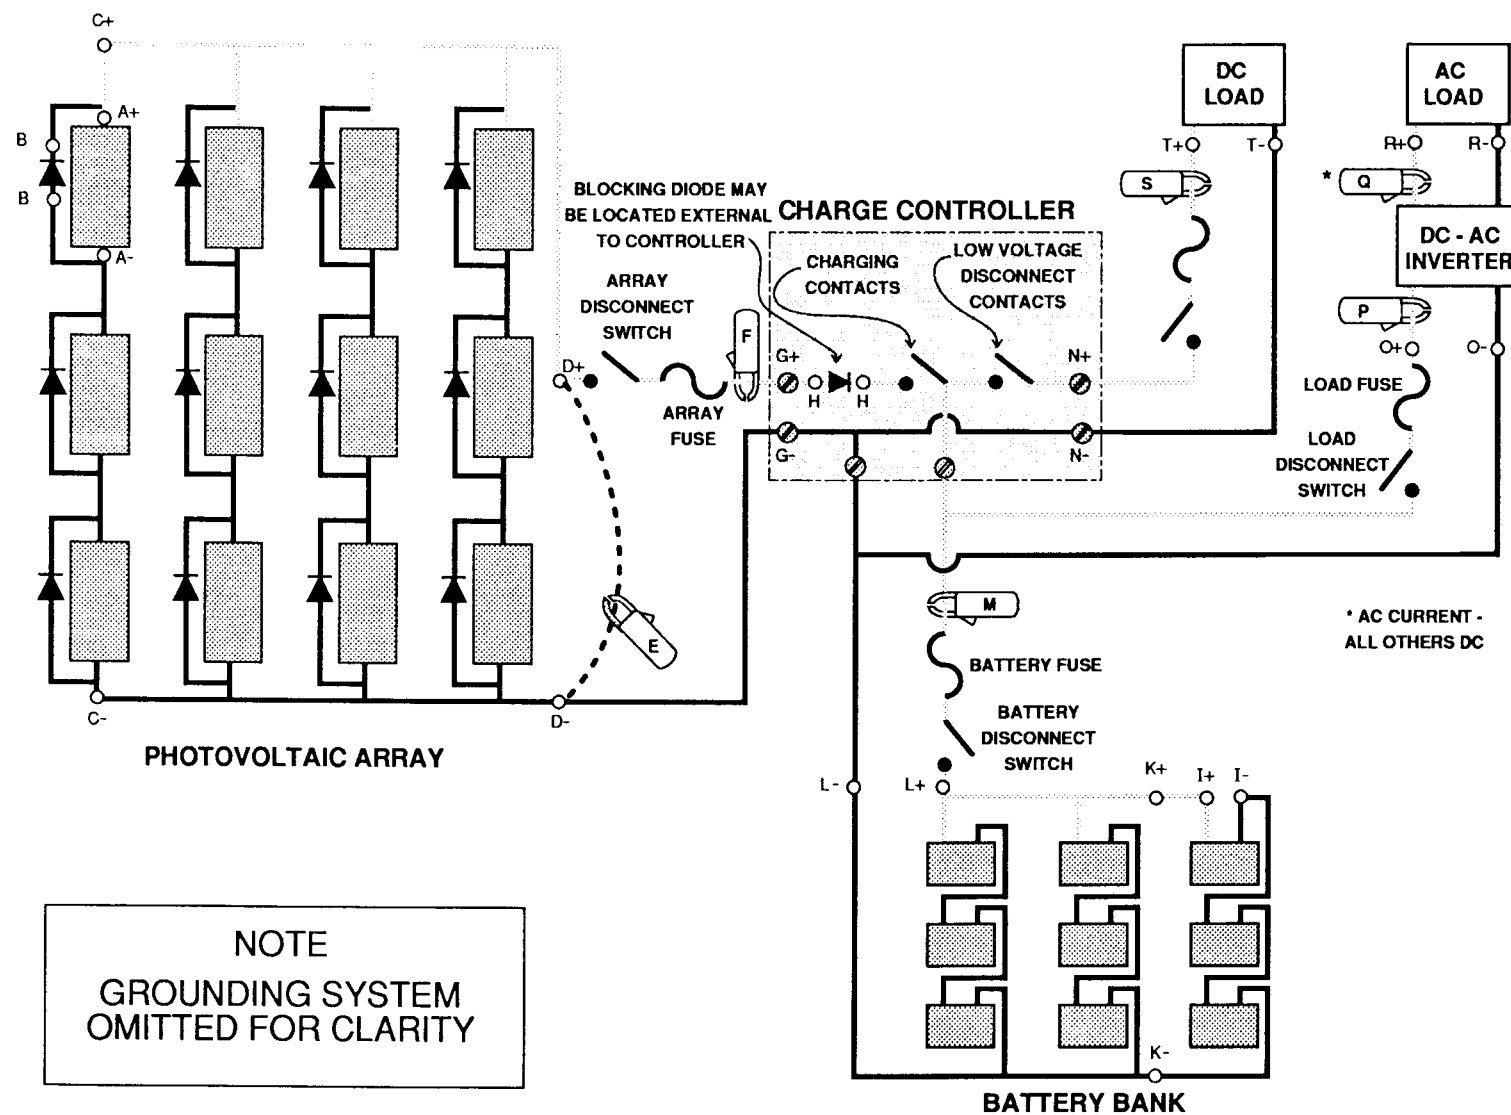

FIGURE 6-1
- 6.1.4 Portable Metering. All the disconnect switches should still be closed at this point. With portable electrical meters, refer to Figure 6-1 and measure and record the following readings: